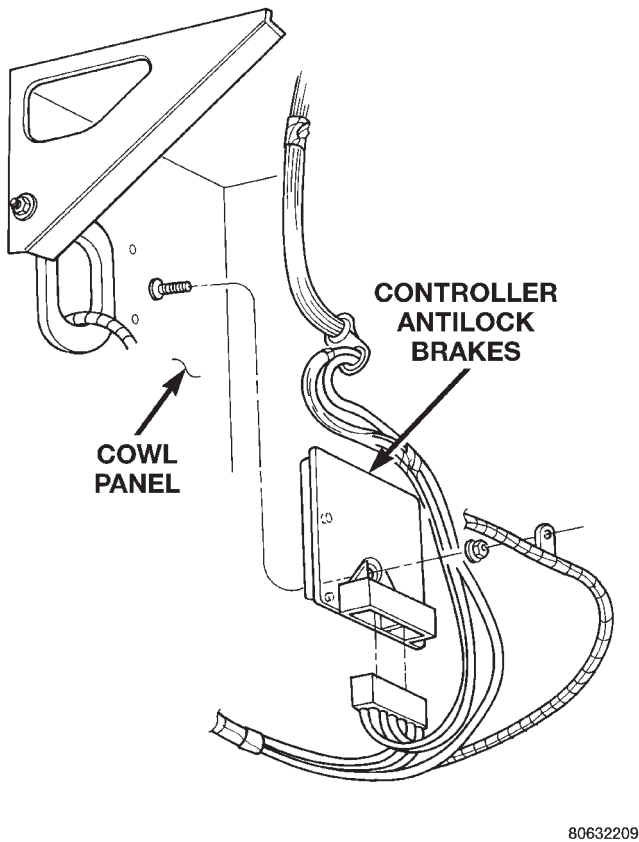

Fig. 9 Controller Antilock Brakes
(2) Remove mounting nut and remove controller (Fig. 9).